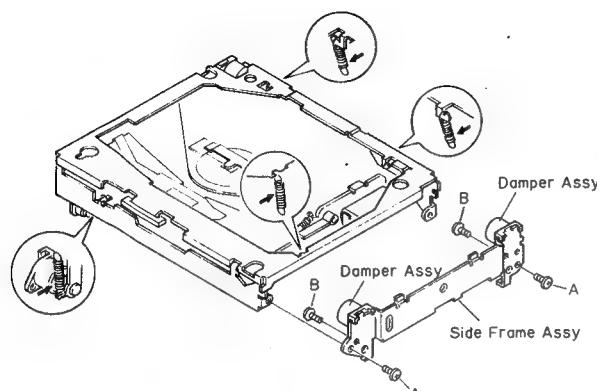

Fig.14
4. Remove the four springs indicated by arrow.(Fig.14)
5. Remove the two screws A, and then remove the side frame assy.(Fig.14)
6. Remove the two screws B, and then remove the damper assy.(Fig.14)